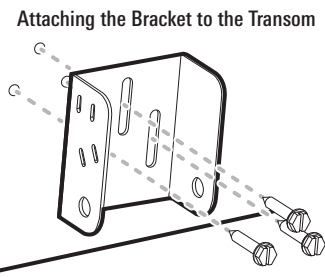

Figure 6
9. Using a hand socket/nut driver, install the three #10-1" (25 mm) screws into the drilled holes, but **do not tighten completely** (Figure 6).